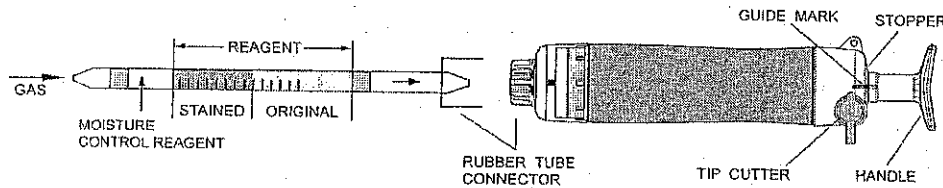

Fig.1
- ② Insert the detector tube into aspirating pump securely as shown in Fig.1. (Arrow mark shall point to the pump.)
- ③ Align the guide marks on the shaft and stopper of the aspirating pump.
- ④ Pull the pump handle at a full stroke until it locks and wait for 1.5 minutes or until the completion of sampling is confirmed with the flow indicator of the pump (See descriptions about the flow indicator in the instruction manual of the pump).
- ⑤ On completion of sampling, read the scale at the maximum point of the stained layer.